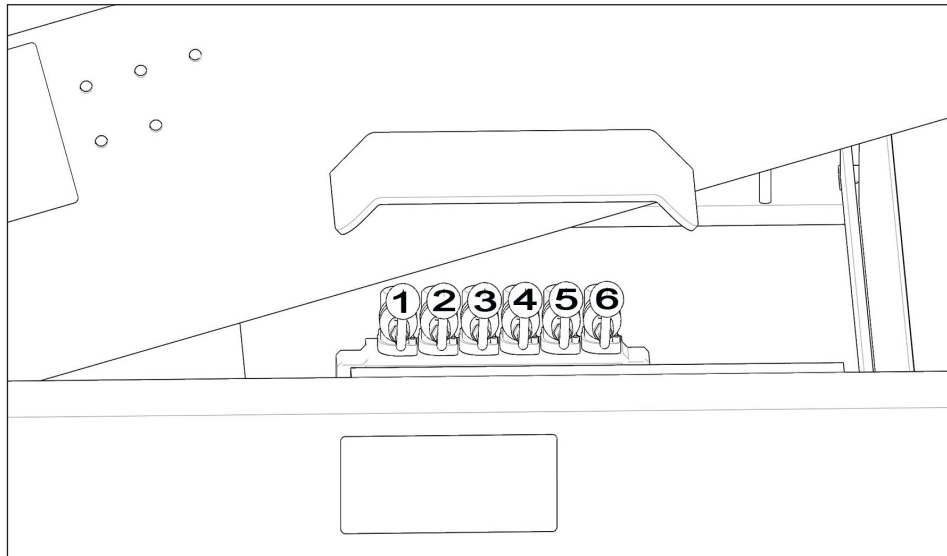
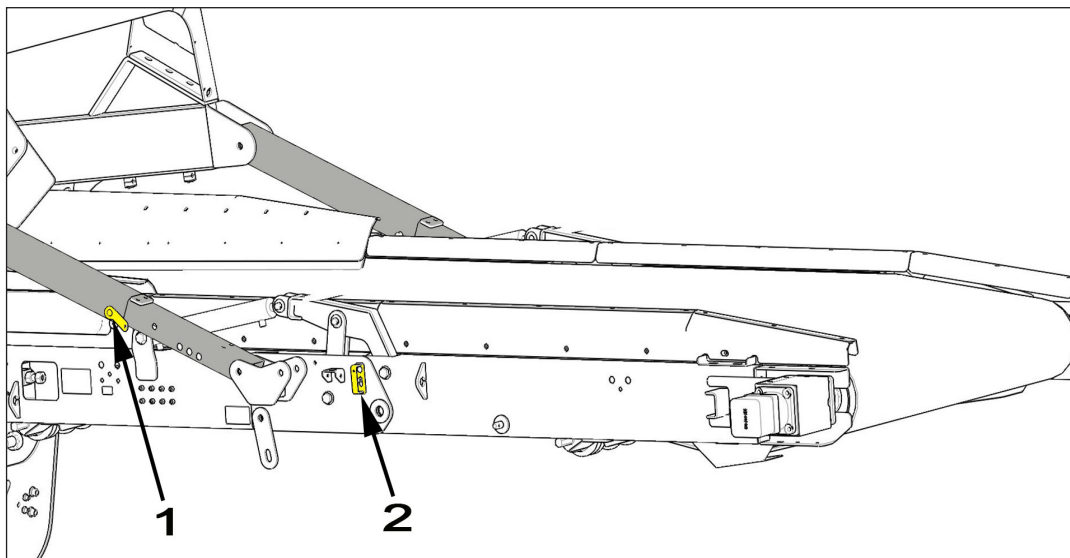

Figure 4.85 - Left Hand Side Hydraulic Levers
Figure 4.86 - Tail Conveyor Pins
4. Tail Conveyor: Push lever (1) in Figure 4.85 to unfold the tail conveyor (ensure transport stays are removed before unfolding). Fit pins to both side of the tail conveyor, see item (2) Figure 4.86
5. Use Lever (2) in Figure 4.85 to position the tail conveyor at the desired angle and fit pins to both support legs, see item (1) Figure 4.86
Hydraulic control lever 6 in Figure 4.85 is an option fitted to machines with hopper extension plates. If hopper extensions are not fitted to the machine this lever will be missing.